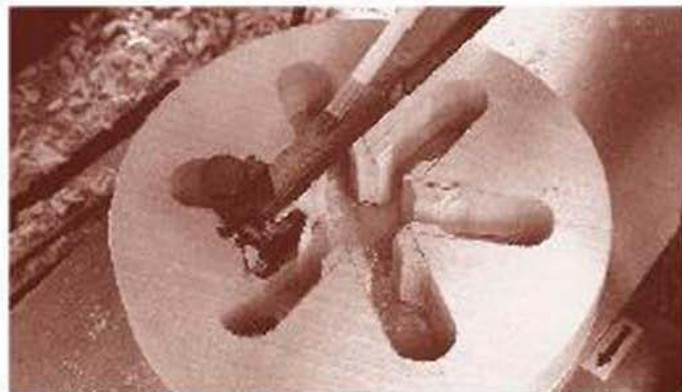

FIGURE 19-6
- 7** When you have marked out the design and drilled out the ends of the piston chambers, use a scroll saw to cut out the rest of the design (Figure 19-6). Make sure the sawn edges are clean and crisp and at right angles to the face of the disk.